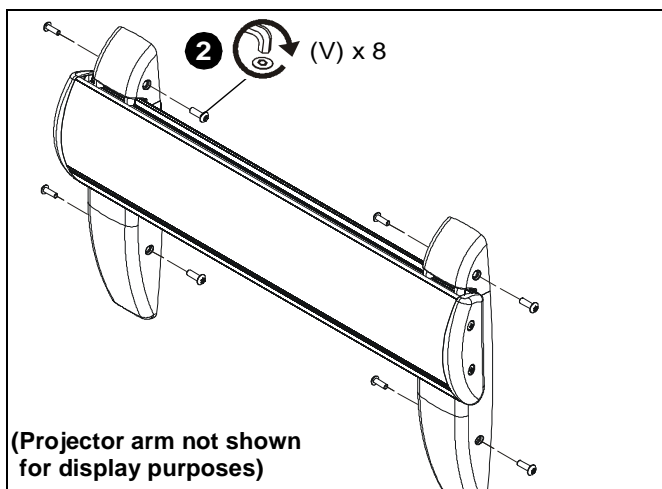

Figure 41
2. Install eight #8-32 x 1/2" button head security screws (V) into holes in wall bracket covers. (See Figure 41)